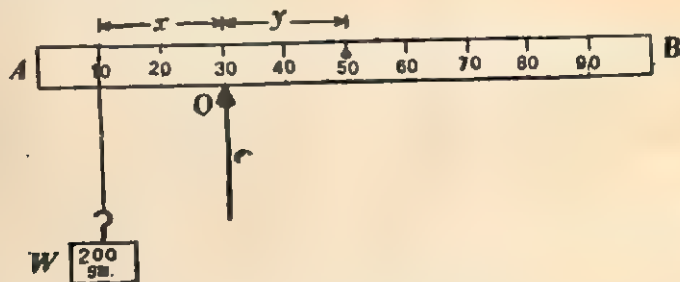

Fig. 2.1. The weight of the scale is considered to act at a point called C.G.
**Procedure.** (i) Weigh the metre-scale  $AB$  with the spring balance. Let its weight be 200 gf. (See Fig. 2.1).